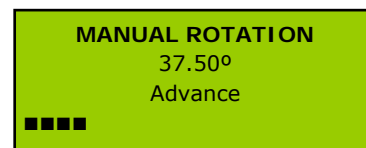

Figure 24
- **Manual rotation mode without introducing anteriorly the angle by the keypad.** To Access this mode, press the pedal directly from the initial menu. The machine will then start to rotate forward and the information on Figure 24 will be displayed.